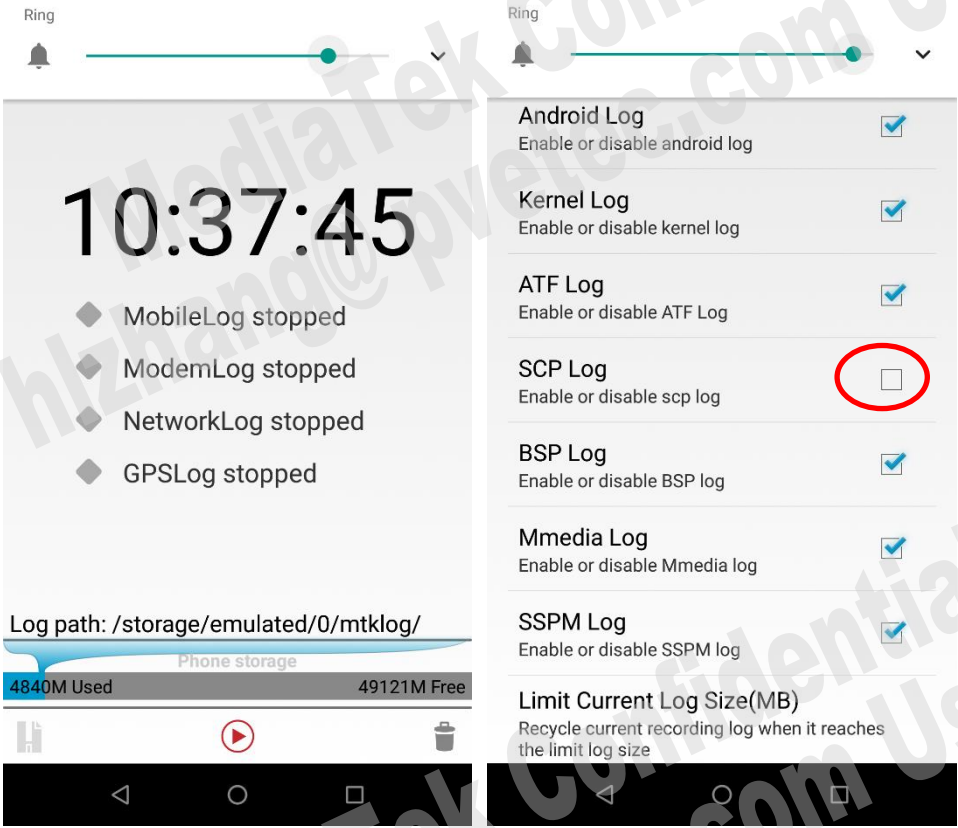

Figure 8-3. Disable SCP Mobile log
- Make sure SCP Log in MTK Logger is disabled (as shown in Figure 8-3.)